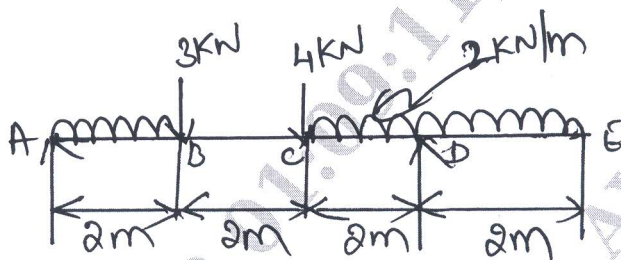

Fig.Q.6(b)
b. For the beam shown in Fig.Q.6(b) draw the SFD and BMD. Locate the point of contra-flexure if any.